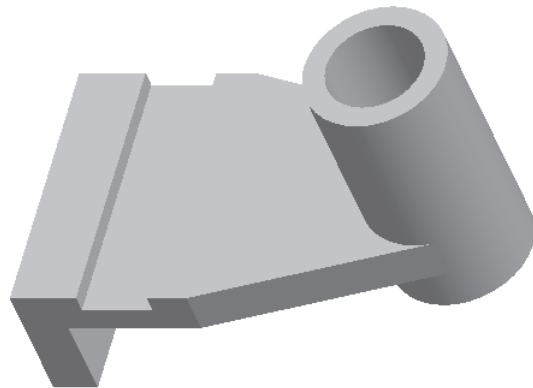

Figure 5-102 Final model of Tutorial 3
4. Choose the **Build feature** button to confirm the feature creation. The default trimetric view of the complete model is shown in Figure 5-102.